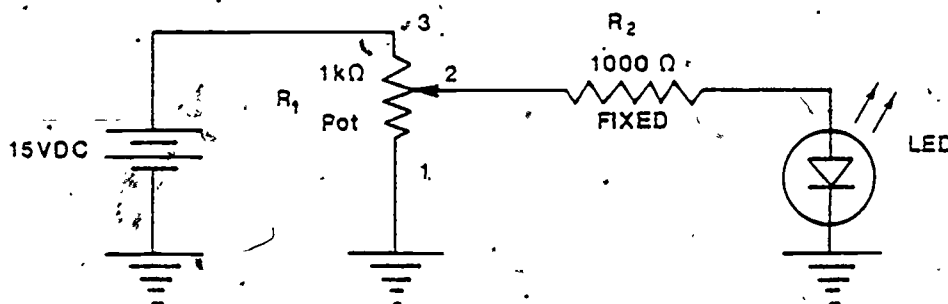

Figure 13. LED Circuit.
1. Build the circuit shown in Figure 13, being careful to properly connect the LED cathode and anode.